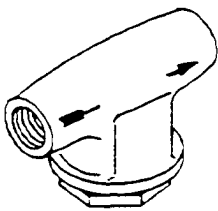

Figure 2-13. Water Strainer Installation
3. When installing water strainer(s), use a strainer with a 40 mesh screen as illustrated in Figure 2-13.